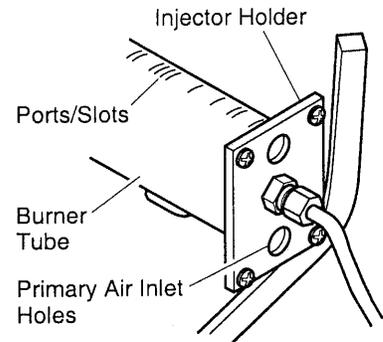

Figure 48 - Injector Holder On Outlet Burner Tube
2. Inspect burner, pilot, and primary air inlet holes on injector holder for dust and dirt (see Figure 48).